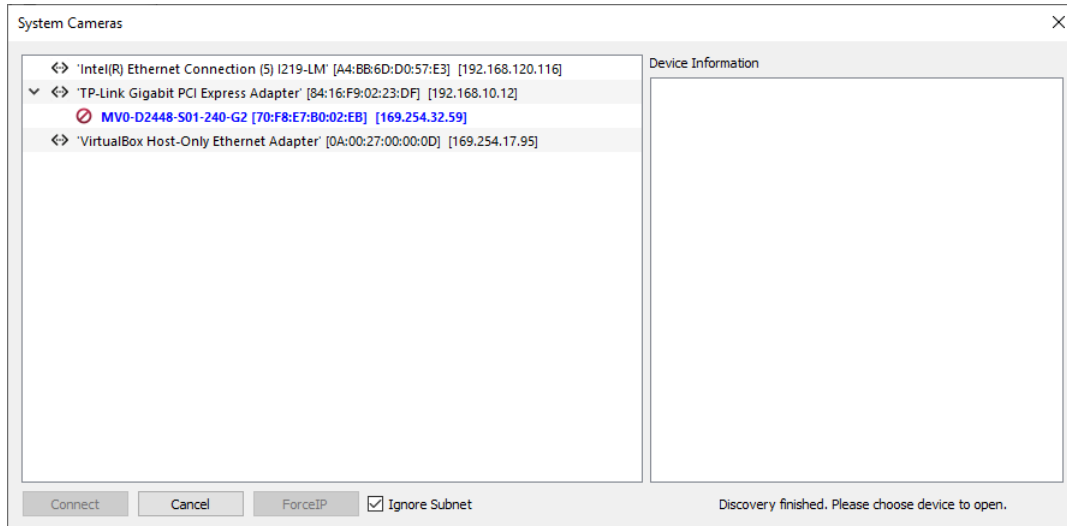

Figure 2.8: PFViewer Device Selection Procedure displaying available cameras
- Click on the Discover available cameras button in the PFViewer. A window with all detected devices appears (see Fig. 2.8). If your camera is not listed then select the box Ignore Subnet.